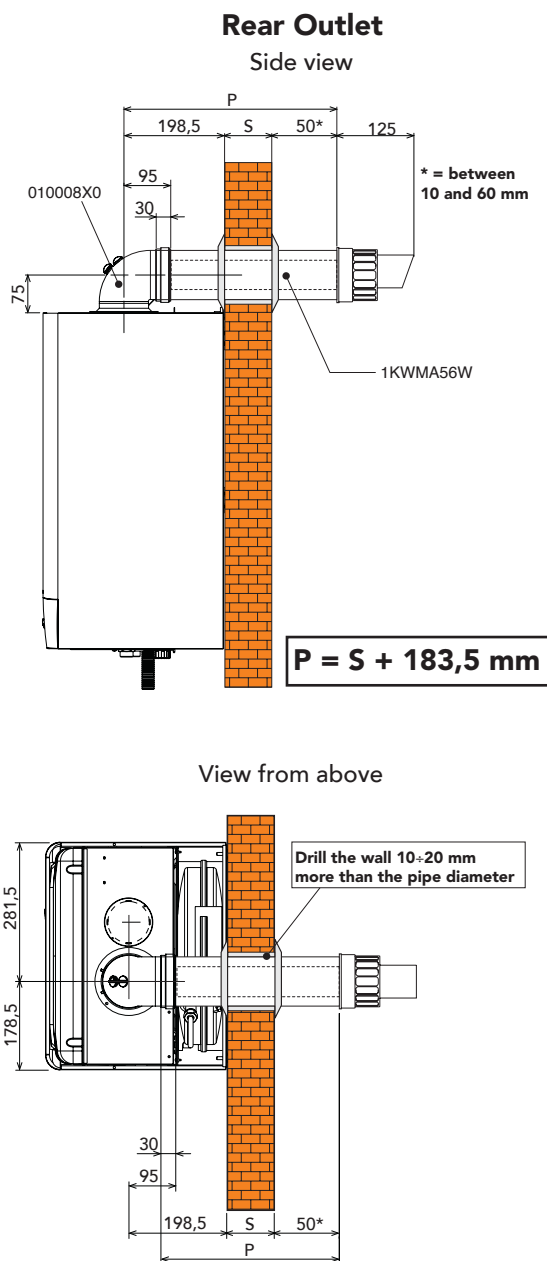

fig. 10a
4. If necessary, cut the end pipe to size, ensuring that the external pipe protrudes from the wall by between 10 and 60 mm (Fig. 10a and 10b). Remove the cutting burrs and lubricate the seals with a suitable silicone based grease.